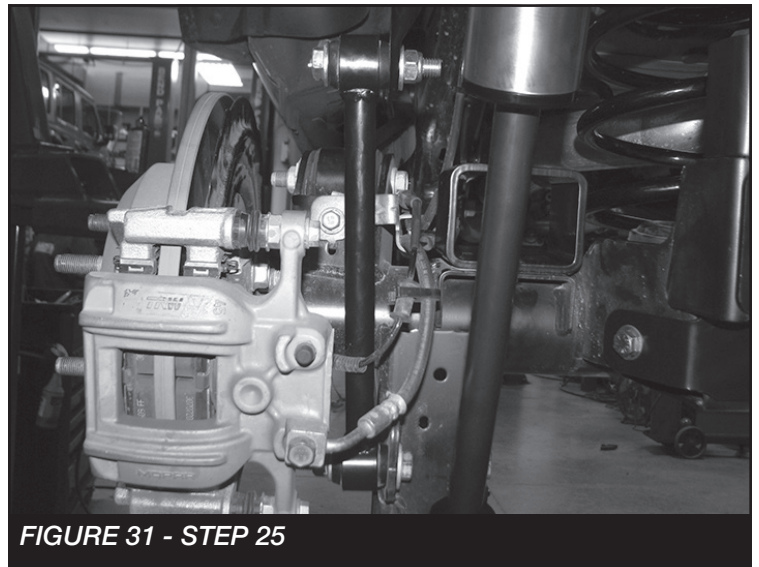

FIGURE 31 - STEP 25
25. Install the FT50048 (Bushings) and FT404739 (Sleeves) into FT50026BK (Rear sway bar links). Then, install the new links to the sway bar and sway bar mount on the axle using supplied M12 x 70mm hardware for the upper location and the factory for the lower. Torque to 65 ft-lbs **SEE FIGURE 31**